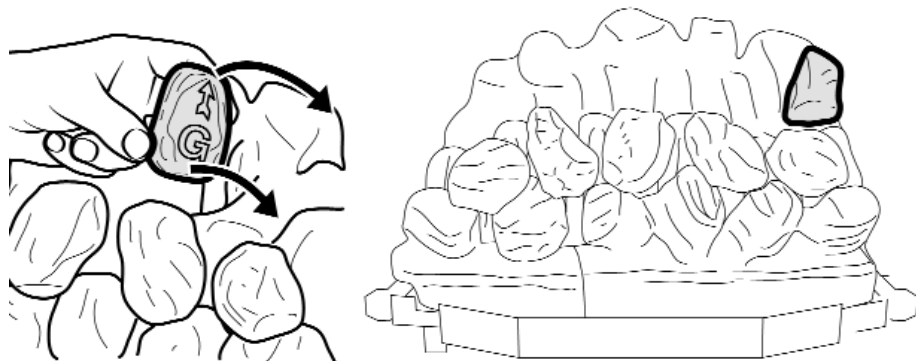

Figure 9. Second row "Coal G"
10. Hold coal 'G' upright with the arrow pointing to the top. Locate coal 'G' as shown in figure 9.